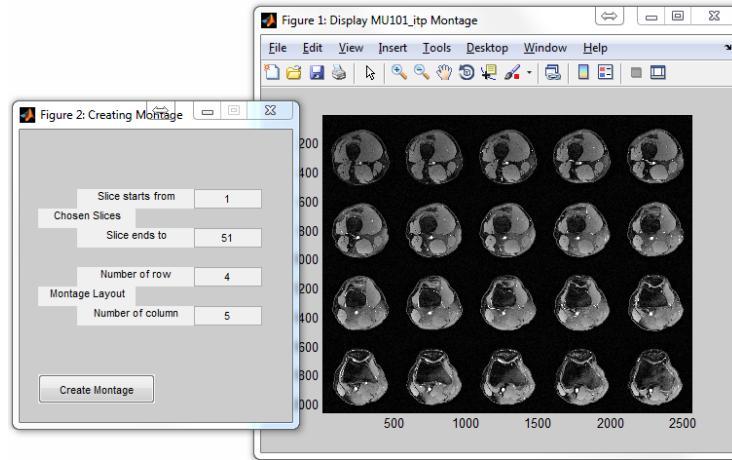

Figure 6.10: Montage Image. An example of creating a 4-by-5 montage image using multiple matrix slices starting from the first slice.
- : Create a montage image using multiple slices (Figure 6.10)